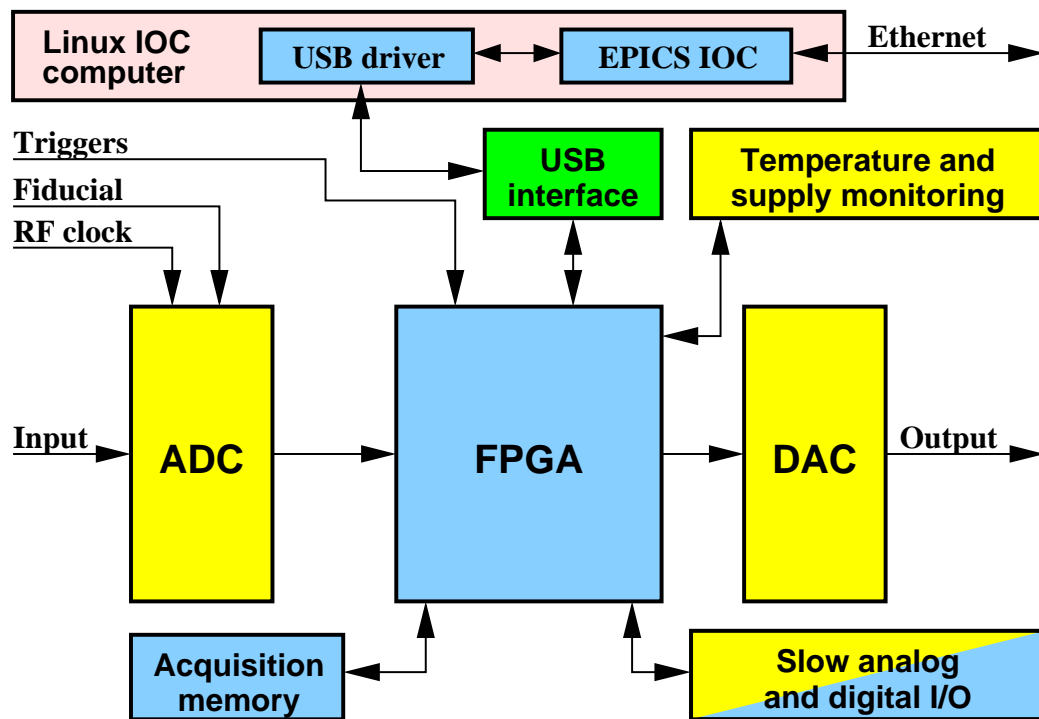

Figure 1: iGp12-200F block diagram
A block diagram of the iGp12-200F system is shown in Figure 1. The main signal processing chain consists of a high-speed 12-bit analog-to-digital converter (ADC), a field programmable gate array (FPGA), and a high-speed 12-bit DAC, all driven by the radio frequency (RF) clock. In addition to performing real-time control computations, the FPGA interfaces to a number of on-board devices, such as high-speed data acquisition memory (static random access memory (SRAM)), low-speed analog and digital input/output (I/O), as well as temperature and supply voltage monitors. In turn, the FPGA uses an internal universal serial bus (USB) connection to communicate to an embedded input-output controller (IOC) computer housed in the same chassis. The IOC runs the Linux operating system and is connected to the overall control system via the Ethernet.